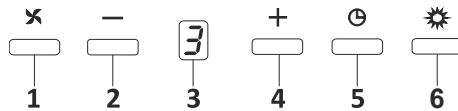

Fig. 16: 3 Spd Dig Button
1. ➤ Press this button to turn on the product. Fig. 16
2. ➤ Press this button to decrease the motor speed. Fig. 16
3. ➤ Dig display You can follow which speed the product is currently working on this display. Fig. 16
4. ➤ Press this button to increase the motor speed. Fig. 16
5. ➤ When timer button is pressed, a 15-minute timer function will be activated; display will give a signal once the timer starts and the motor will stop automatically after 15 minutes. Fig. 16
6. ➤ Press this button to turn on and off the lamp. Fig. 16